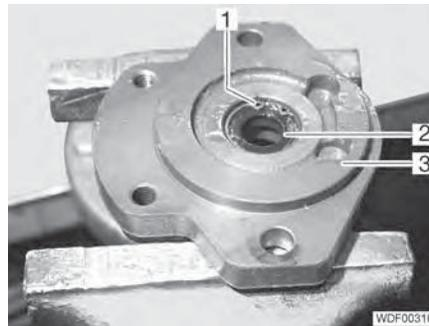
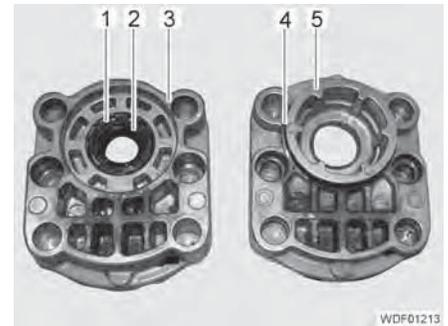

Fig. 162 Annular shaft seal
Fig. 163 Annular shaft seal and O-ring
- Remove the locking rings (Fig. 162,1 and Fig. 163,1).
- Drive out the annular shaft seals (Fig. 162,2 and Fig. 163,2) outwards.
- Remove the O-ring (Fig. 163,4).
- Thoroughly clean the flange (Fig. 162,3 and Fig. 163,5) and cover (Fig. 163,3).